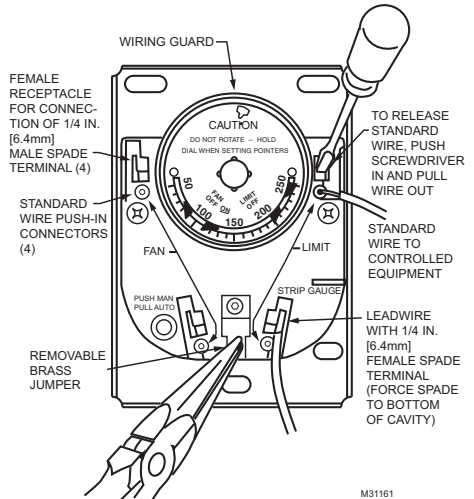

Fig. 8. Location of wiring connections.
The brass jumper is the breakaway type. It must be removed when the limit is used in the low voltage circuit. To remove jumper, break with a needlenose pliers and remove completely. Once removed, it is not replaceable. See Fig. 8 for location.
When connecting cable or conduit to this controller, use care to avoid strain on the control case. Connections can be made to standard wire push-in terminals or female receptacles for 1/4 in. (6.4 mm) male flag connectors on both the fan and limit switches (Fig. 8).
3. Solid wire may be inserted directly into the terminal holes. If stranded wire is used, insert a small screwdriver into the slot next to the terminal. Push screwdriver in and hold while inserting wire into terminal (Fig. 8). Remove screwdriver. If stranded wire is solder-dipped, it can be pushed directly into terminal holes.
3. Push male flag connector directly into the female receptacle. Make sure that the flag is forced to the bottom of cavity and wire is in the channel (Fig. 8).